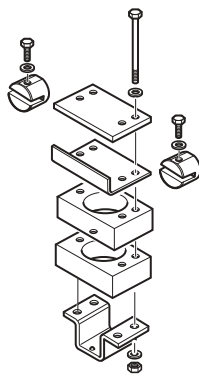

Fig. 26
- The two 30 mm thick spacer plates can compensate for a distance of either 30 mm or 60 mm (Fig. 26).